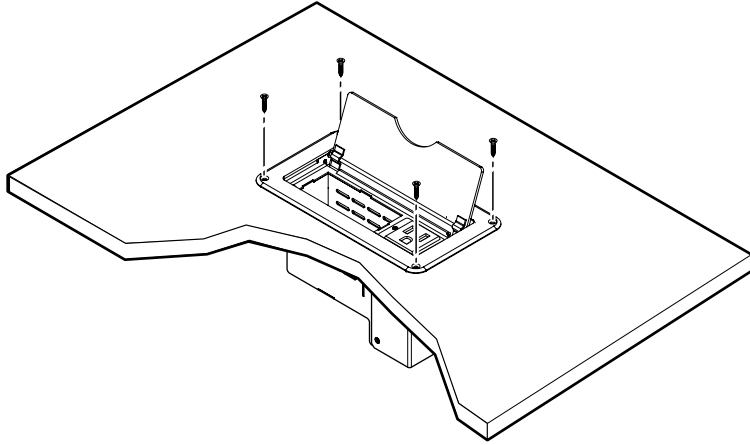

Figure 3-2 — Removing the Cable Cubby 200
4. **Cable Cubby 200** — Remove the screws at the four corners that secure the cubby to the table (figure 3-2).
12. **Cable Cubby 200** — Fasten the Cable Cubby 200 to the table with the four 6-32 x 1/2" screws removed in step 4 (figure 3-2).